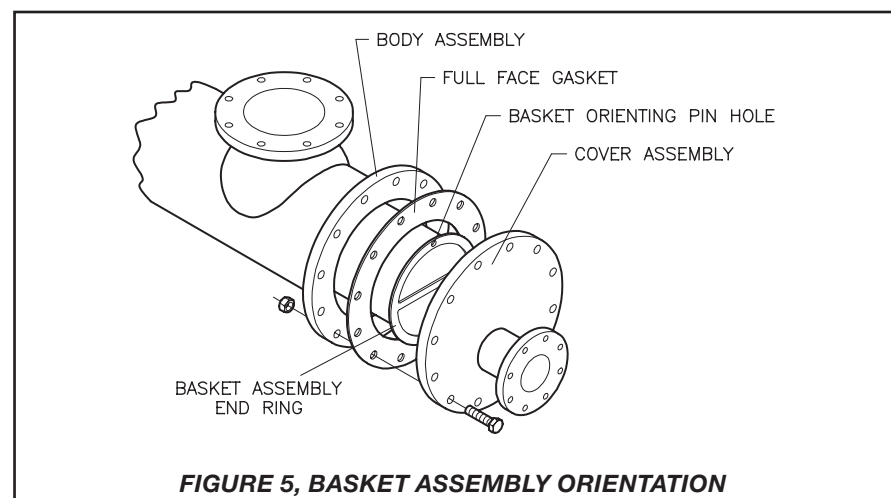

FIGURE 5, BASKET ASSEMBLY ORIENTATION
Step 5. When reinstalling the Basket Assembly, make certain that the Basket Assembly End Ring with the "basket orienting pin hole" is at the Cover Assembly end of the Strainer, and that the "basket orienting pinhole" is at the top as shown in Figure 5.
Step 6. When reinstalling the Cover Assembly, make certain that the Basket Assembly is fully inserted into the Strainer Body, and that the Basket Orienting Pin will engage with the Basket Assembly End Ring (Fig. 5). Gradually cross tighten all bolts so that a uniform load is applied around the periphery of the Cover Assembly.